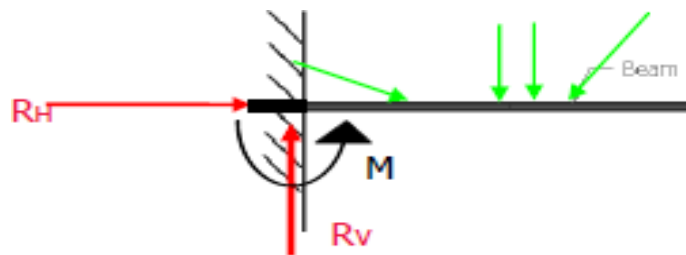

Fig 3.7 Cantilever beam
3. **Cantilever Beams:** It is a beam, with one end fixed and other end free. Such a beam can carry loads in any directions as shown in Fig 3.7